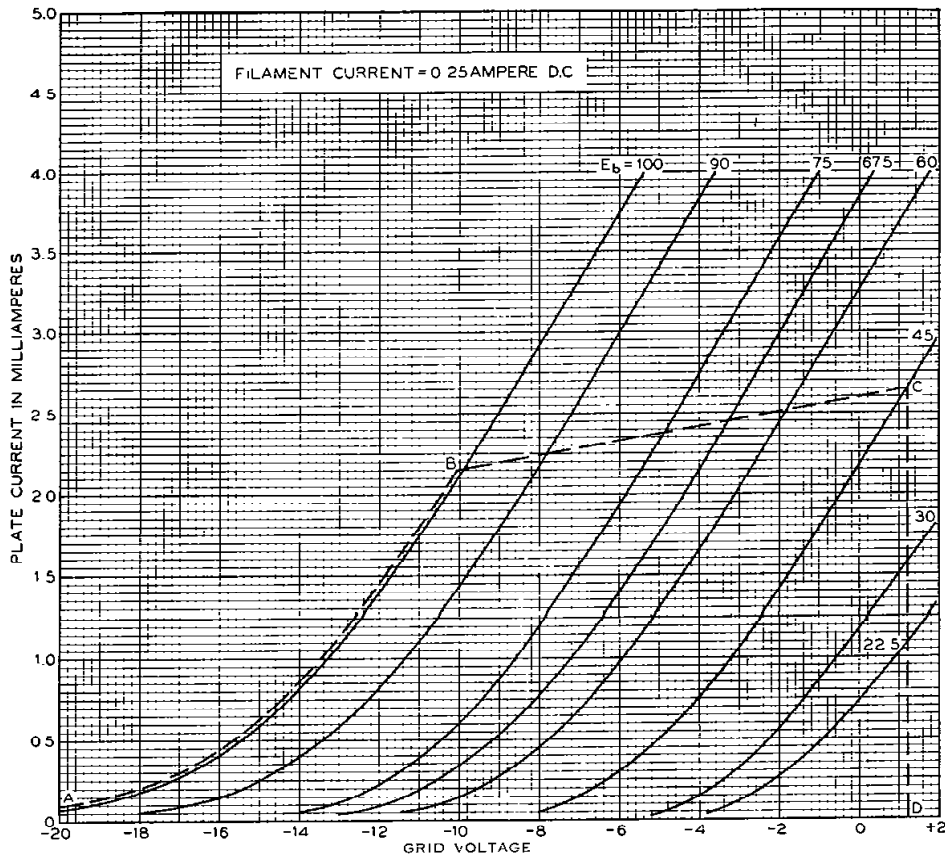
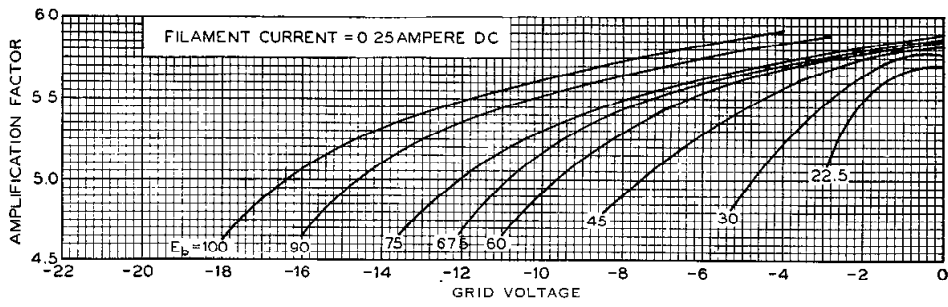

FIG. 3
FIG. 4
**Characteristics**—Plate current characteristics of a typical 231D tube are shown in Figure 3 as functions of grid voltage for several values of plate voltage. The grid and plate voltages are measured from the negative end of the filament. Corresponding amplification factor, plate resistance, and transconductance characteristics are given in Figures 4, 5 and 6, respectively. Plate current characteristics as functions of plate voltage are shown in Figure 7 for several values of grid voltage.
**Operating Conditions and Output**—Permissible operating plate and grid voltages are included within the area, ABCD, in Figure 3. Amplification factor, plate resistance, transconductance, and performance data are given in the table on page 3 for a number of typical operating conditions represented by selected points within this area. The less severe operating conditions should be selected in preference to maximum operating conditions wherever possible. The life of the tube at maximum conditions may be shorter than at less severe conditions.